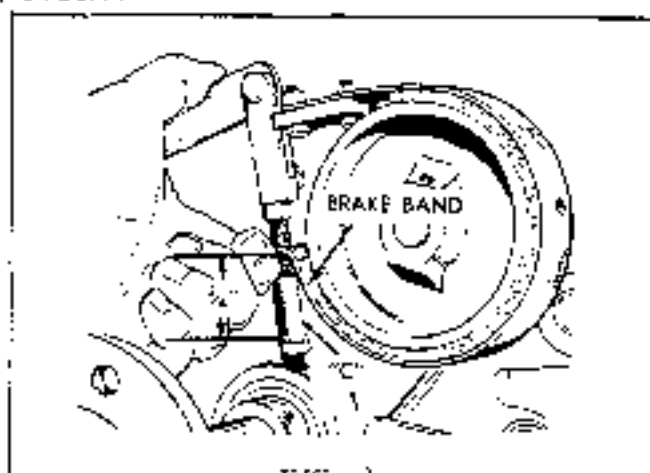

FIG. 2
Pull the brake band up by hand so that it is tight around the brake drum. Adjust the hex screw (C) Fig. 2 to give a clearance of about $3/4$ " between the brake band and the screw head. Then check to see that the idler pulley releases the belt properly before the brake is applied. If the brake does not hold properly when the pedal is pushed all the way forward, reduce slightly the spacing between the head of the hex bolt and the brake band. Then recheck the clutch rod adjustment for proper idler release.